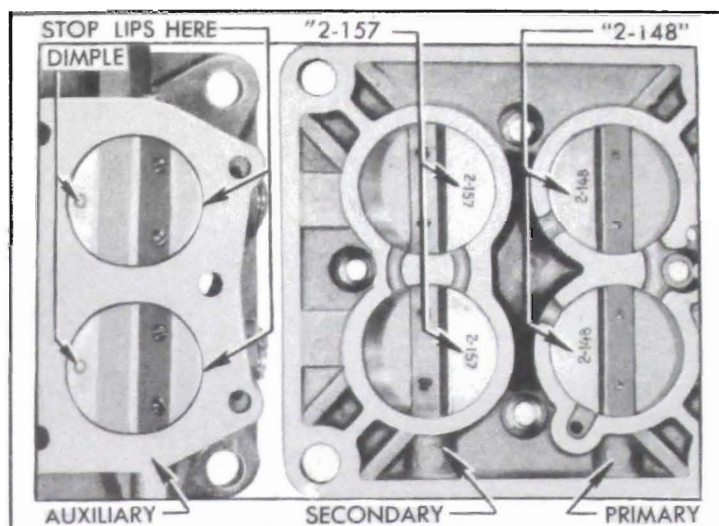

Figure 3-50—Installation of Throttle Valves
2. Place secondary throttle shaft in body flange and install valves with *new* screws. Stamped numbers on valves must be downward and toward middle of flange. Shift the valves as required to provide the closest possible fit in barrels in closed position, then tighten screws securely. See figure 3-50. Support screw heads on suitable steel block and stake opposite ends of screws.
Position the valve so the clearances along the sides are fairly uniform and so that the stop lips have good bearing on edge of barrels. See figure 3-50.
5. Install throttle valves on shaft with *new* screws, placing the stamped number on valves downward and toward middle of flange. Back off throttle lever adjustment screw, fully close and center both valves in barrels of body flange, then hold valves firmly while tightening screws. See figure 3-50.